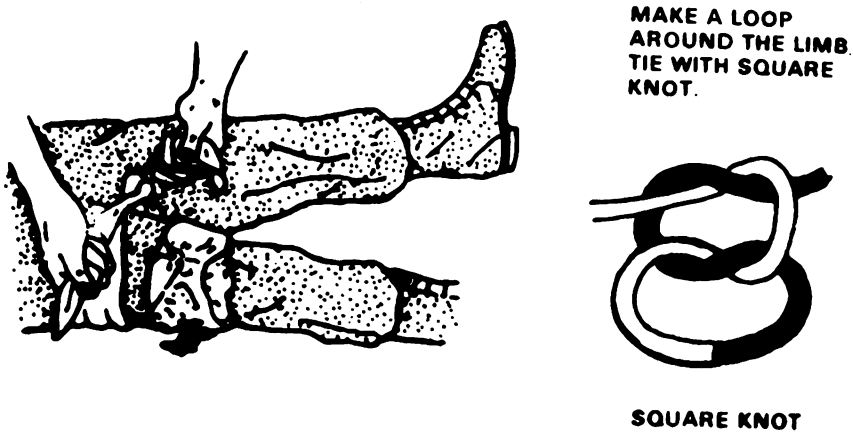

Figure 4. Tying tourniquet.
- (1) Tie the tourniquet, using a square knot as shown in figure 4.